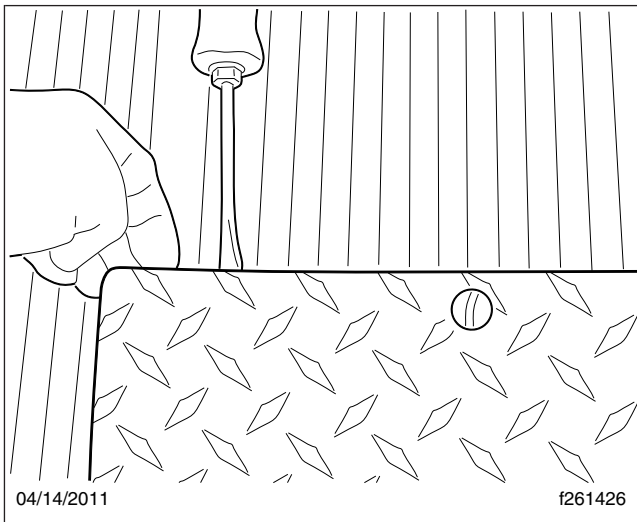

Fig. 16.19, Removing the Service Panel
3. Use the screwdriver to pry the panel open and remove it, as shown in Fig. 16.19.